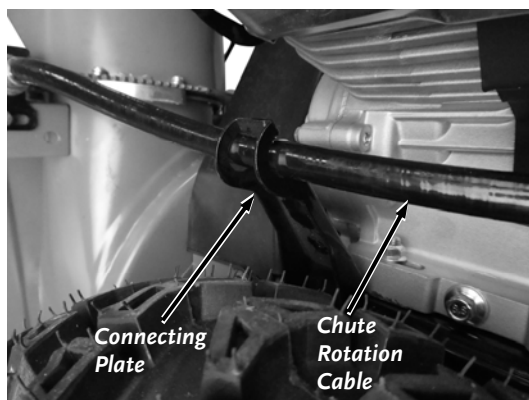

Figure 18
17. Place the Rotation Bracket Cable into the Connecting Plate (**Figure 18**).